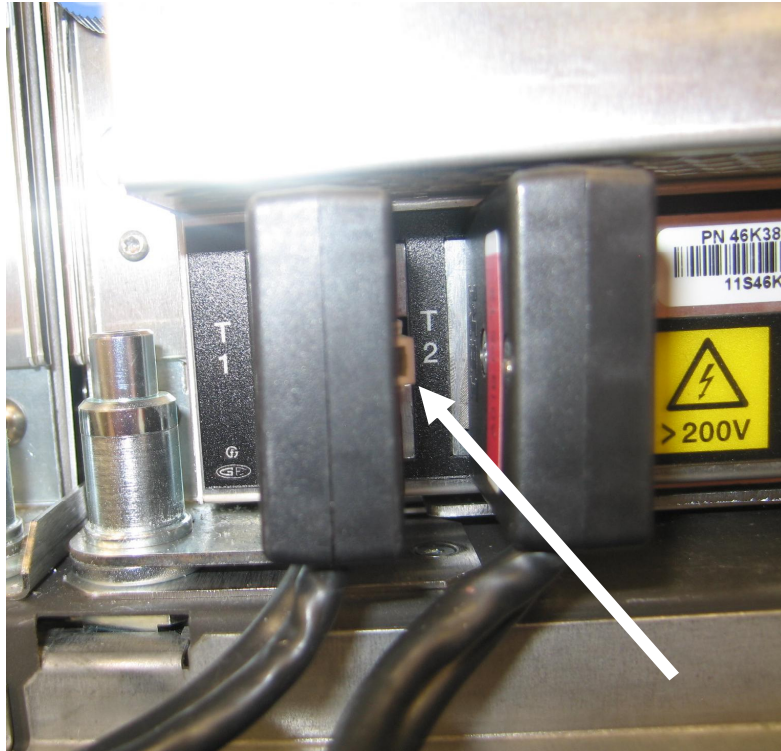

Figure 10 WCU MDA end of Power Cable
STEP 12 Unplug the WCU MDA Power Cable from WCU MDA by depressing the cable latch/tab(see arrow in Figure 10) and pulling the connector plug away from the WCU (see Figure 9 and Figure 10).